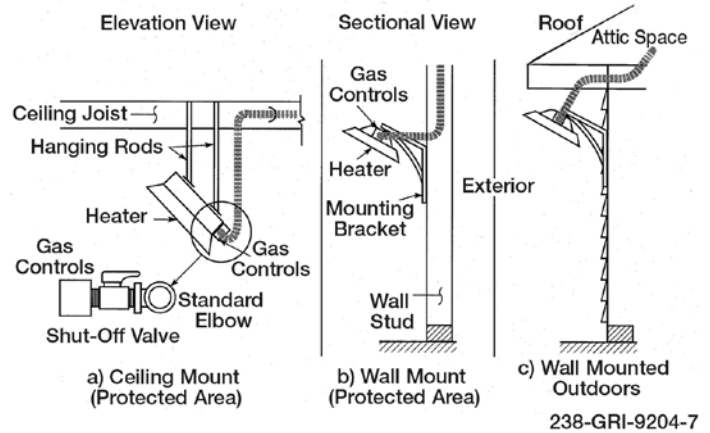

Fig. 4-71
e) Infrared heaters (Fig. 4-71) that are solidly mounted to ceilings and walls of structures may be connected to the Gastite/FlashShield+ CSST system as shown in the figures below and in accordance with the manufacturers instructions. High Density infrared heaters generally fall into this category. Gastite/FlashShield+ CSST should be mounted to a fixed point and not on the end involved with the typical expansion and contraction associated with these heaters.